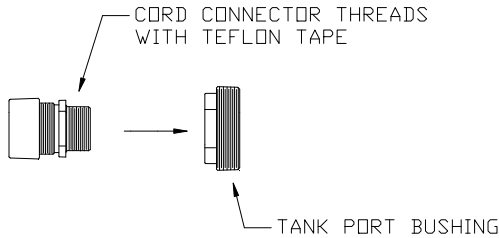

Figure 1. Tank Port Bushing Preassembly
- 1A** After preparing the tank for installation, use Teflon tape or another sealing material on the cord connector or another sealing material on the cord connector threads. Screw the cord connector into the bushing (see Figure 1).